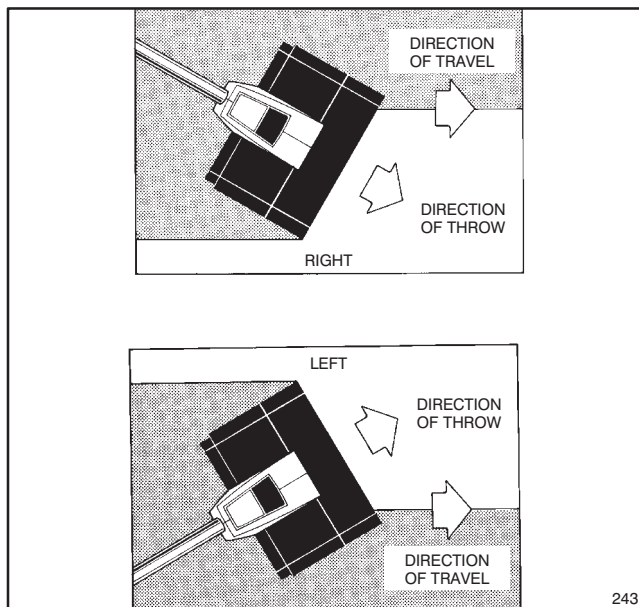

Figure 8
- Direct the snow to the right or the left by holding the *Power Shovel* at a slight angle (Fig. 8).